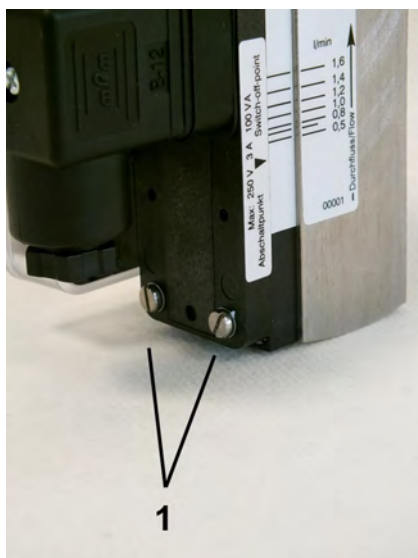

Fig. 34: Loosen set screws
1. ➤ Loosen the switch contact set screws (Fig. 34/1) using a flat-bladed screwdriver.
3. ➤ Re-tighten the switch contact housing set screws (Fig. 34/1) using a flat-bladed screwdriver. Observe the correct tightening torque.